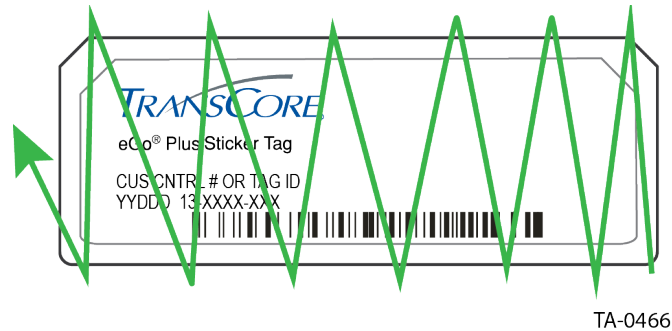
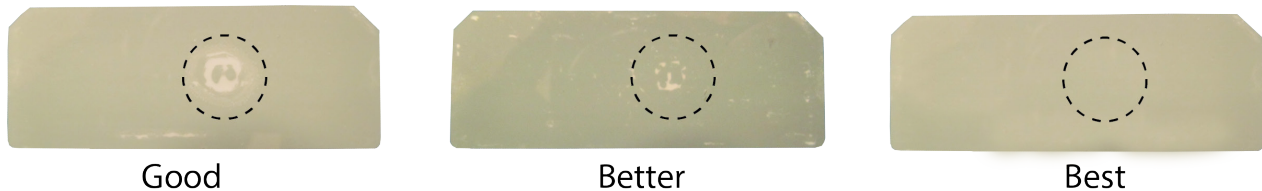

Figure 4 – Remove Air From Around Tag Chip
Figure 5 – Examples of Properly Installed Tags
- Adhere the tag to the glass by rubbing your thumb up and down in a zigzag motion across the entire tag surface (Figure 4). Be sure to rub over the tag's chip to remove as much air as possible.
- Step outside of your vehicle and look at the tag through the windshield. There should be minimal air around the ASIC chip. If there is air around the chip, rub the tag again as shown in Figure 4. Figure 5 shows examples of correctly installed tags.